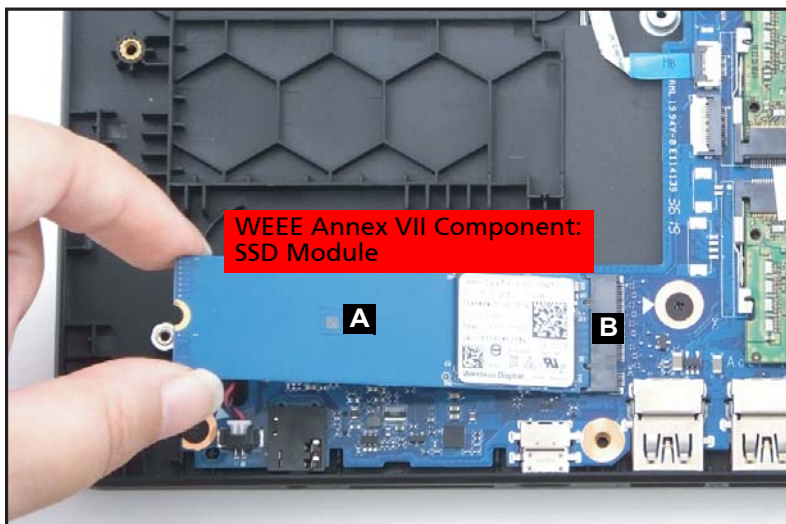

Figure 1-15. SSD Module Removal
2. Remove the SSD module (A) from the mainboard connector (B) (Figure 1-15).